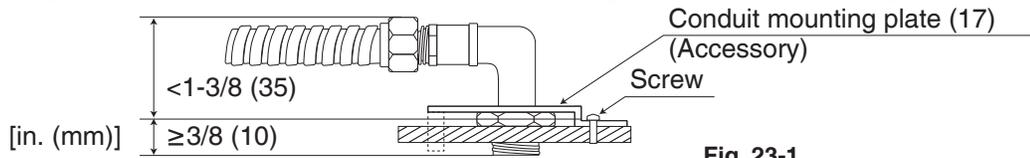
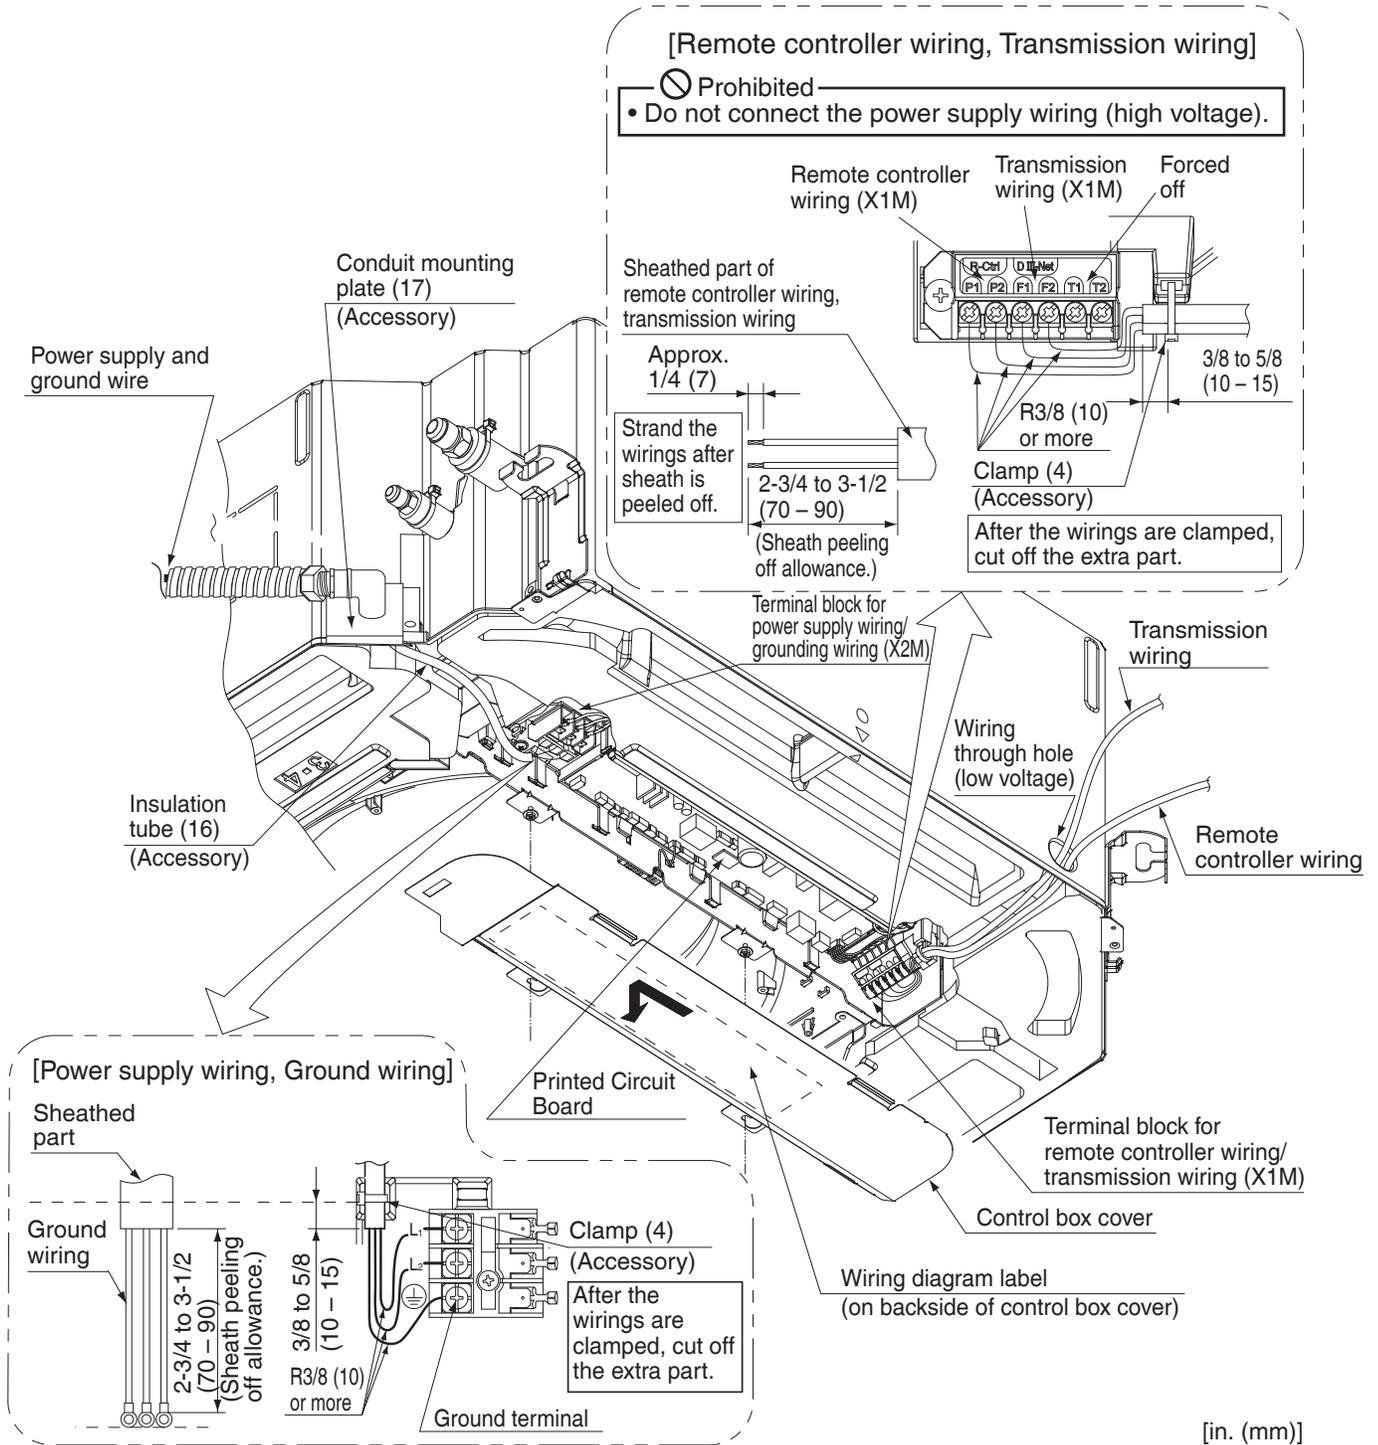

Fig. 23-1
Fig. 23-2
Pass the power supply wire through the attached insulation tube (16) between the outlet of conduit and the power supply terminal, and bind them together with the attached clamp (4). **(Refer to Fig. 23-2)**
Use a pair of conduit mounting plates (17) to connect a conduit to the unit as shown **Fig. 23-1**. After connecting the power supply wiring to [L₁ · L₂] on the power supply terminal block (X2M) and the ground wiring to the ground terminal, clamp them near the terminal block using the attached clamp (4). **(Refer to Fig. 23-2)**
Pull the wiring through the wiring through hole (low voltage). After connecting the remote controller wiring to [P1 · P2] and the transmission wiring to [F1 · F2] on the terminal block (X1M), clamp them near the terminal block using the attached clamp (4). **(Refer to Fig. 23-2)**
- Use a 90° elbow type of conduit with dimensions **Fig. 23-1** to prevent it from hitting the swing motor housing of decoration panel.